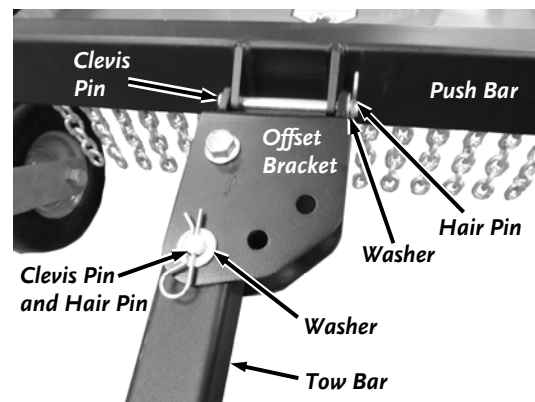

Figure 4
1. Secure the Offset Bracket to the Push Bar in the configuration shown (for right side offset) using the 4.5" long Clevis Pin, Washer, and Hair Pin (Figure 4).